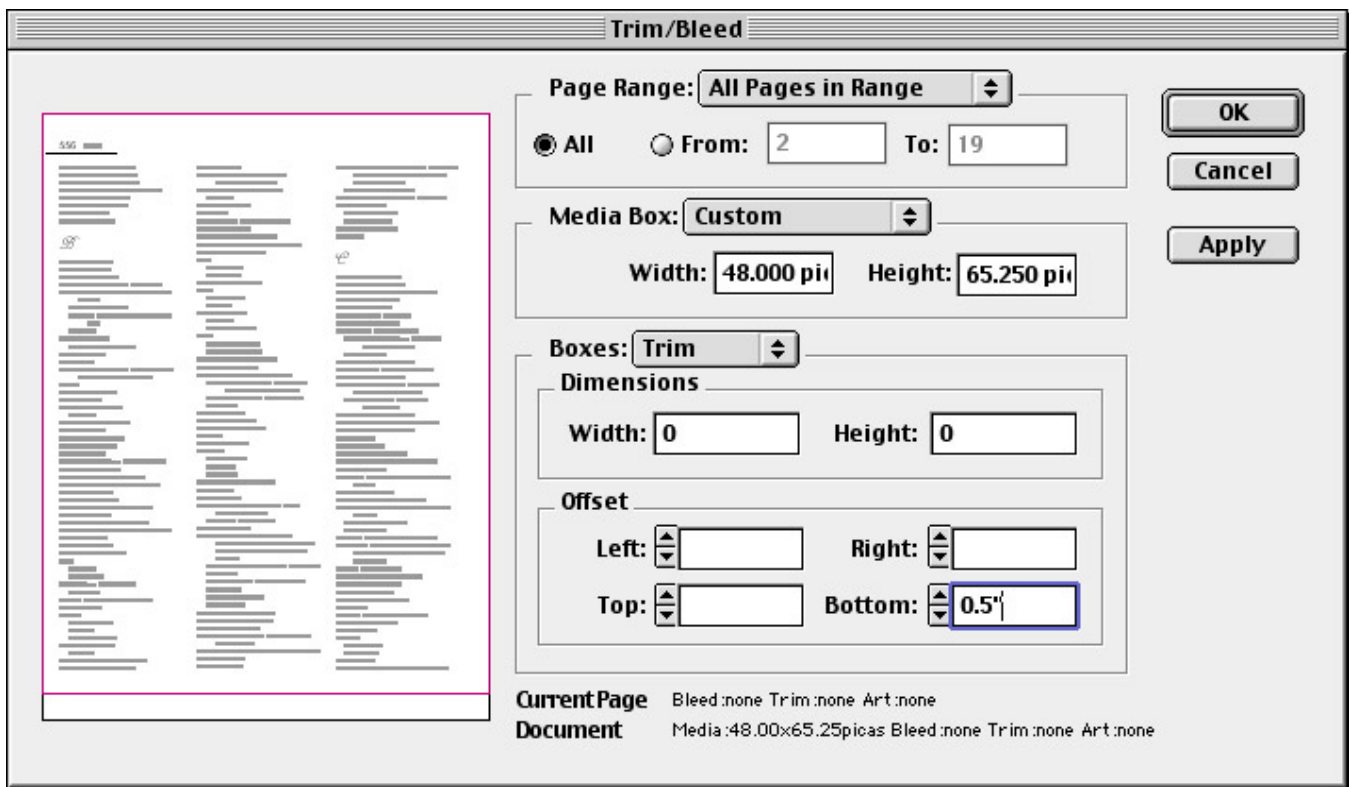

FIG. 3: The Adobe Acrobat Trim/Bleed dialog box.
- Trim/Bleed (FIG. 3). The trim/bleed/art tools are used to define boxes on the PDF page that will comprise a trim, bleed, or art area. The specification is to within 1/1000 of an inch.